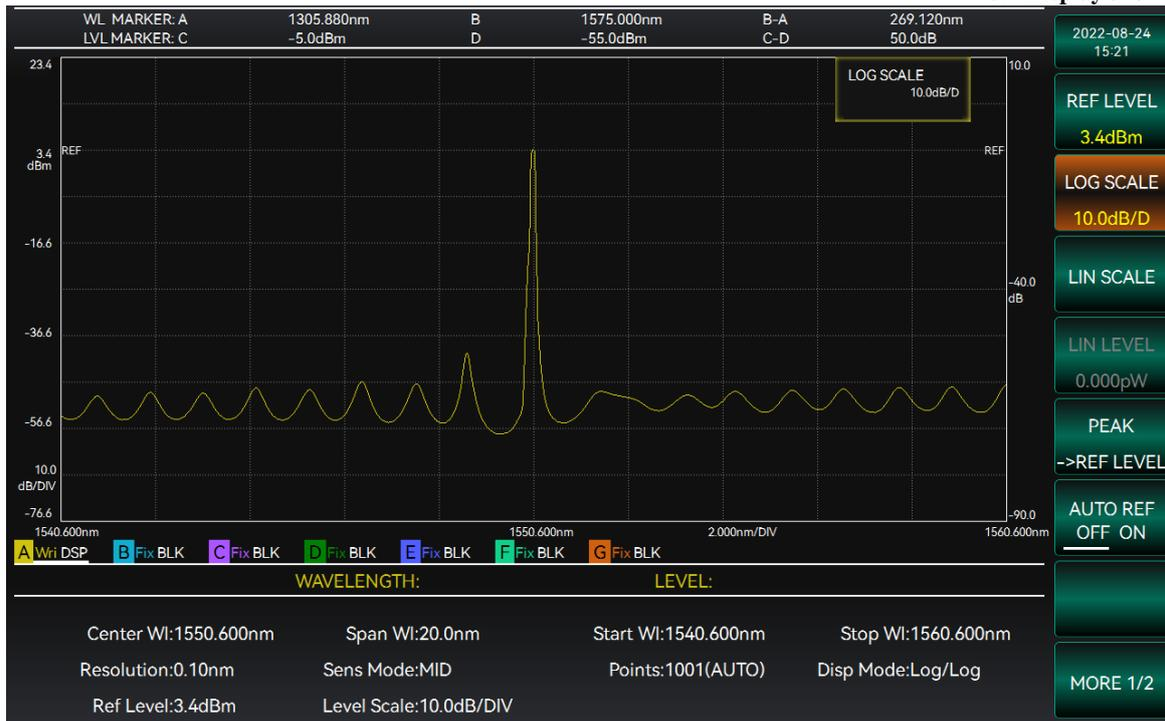

Figure 3-20 Setting logarithmic scale interface
2. Select [LogDisp] and enter the logarithmic scale value via the knob or number keys to complete the setting, as shown in Figure 3-20.